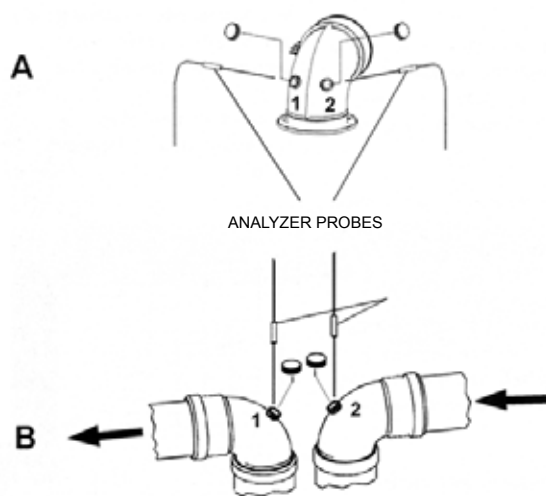

Fig. 16 Examples of flue gas testing points
- assess combustion air temperature from opening 1 (see ref. (A) Fig. 16 Examples of flue gas testing points , for sealed chamber boilers provided with pipes with preset holes).
- assess flue gas temperature and CO2 quantity from no. 2 opening (see ref. (A) Fig. 16 Examples of flue gas testing points , for sealed chamber boilers provided with pipes with preset holes).
- assess combustion air temperature from opening 2 (see ref. (B) Fig. 16 Examples of flue gas testing points , for sealed chambers provided with pipes with preset holes).
- assess flue gas temperature and CO2 quantity from no. 1 opening (see ref. (B) Fig. 16 Examples of flue gas testing points , for sealed chamber boilers provided with pipes with preset holes).